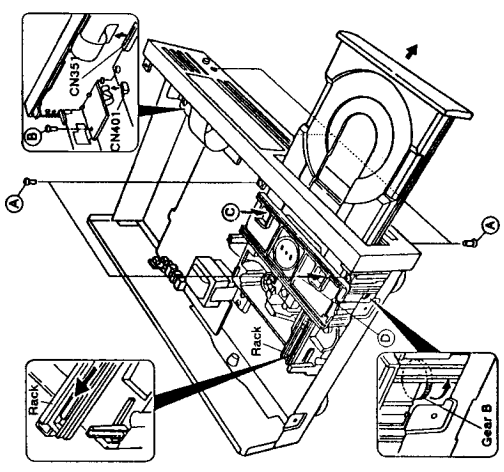

Fig. 2-2
- 2 Pull out the tray slowly by pushing the nail of the tray section from two holes ① and ② of the clamper base (Fig. 2-2). (It is necessary to push the nail of the tray section at the front panel portion.)
- 1 Remove five screws ③ (Upper side is two screws and under side is three screws.) to the front panel.
- 2 Remove a screw ④ to the Headphone board assembly (Fig. 2-2).
- 3 Disconnect two connectors CN351 and CN401 from the Mother board assembly (Fig. 2-2).
- 1 Turn the gear B slowly in the direction of arrow by ① screwdriver with care not to damage the gear B (Fig. 2-2).